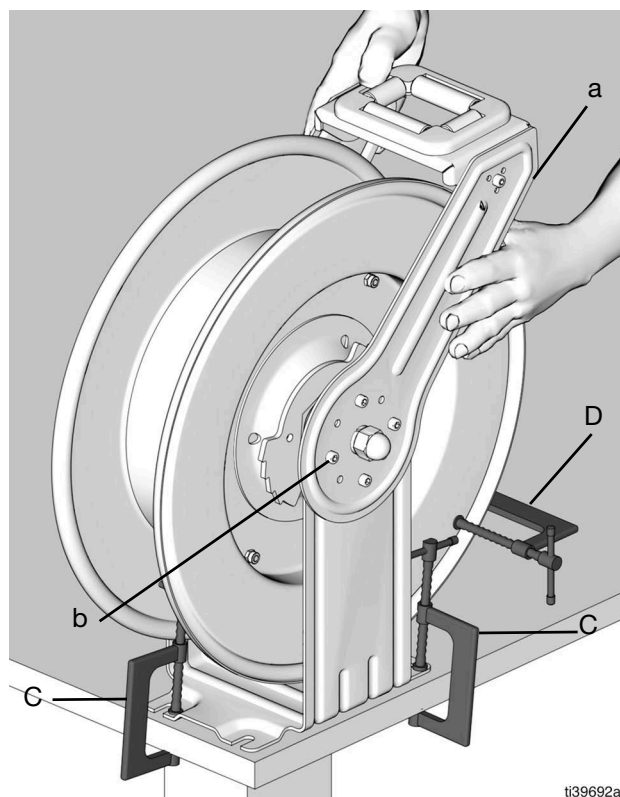

FIG. 5
- a. Secure the reel to a solid surface with C-clamps (C) (FIG. 5).
- b. Attach a C-clamp (D) to the reel flange to prevent the reel from unintentionally becoming unlatched and spinning freely (FIG. 5).